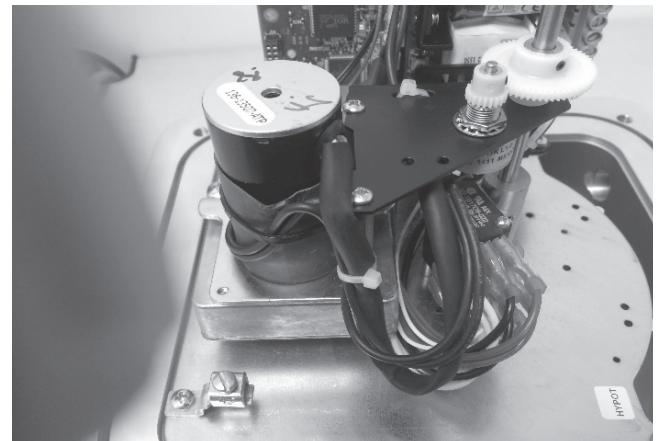

Figure 35.
- 4.37 Secure wires with cable ties, as shown in Figures 35 and 36, to avoid contact with moving parts.